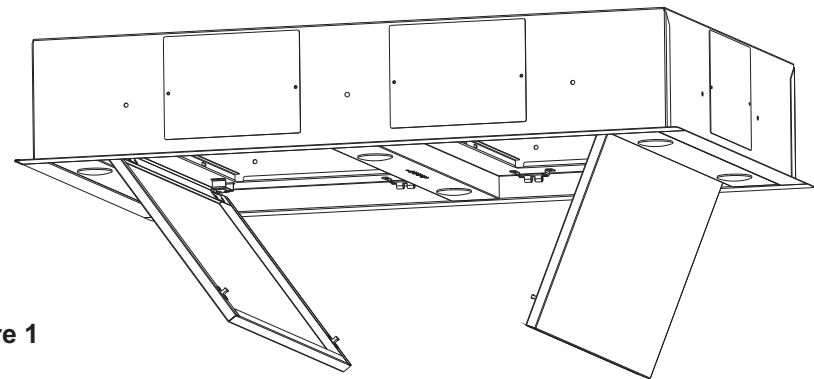

Figure 1
* Open the split-extraction sheet of the device and remove the filter (Figures 1 & 2).